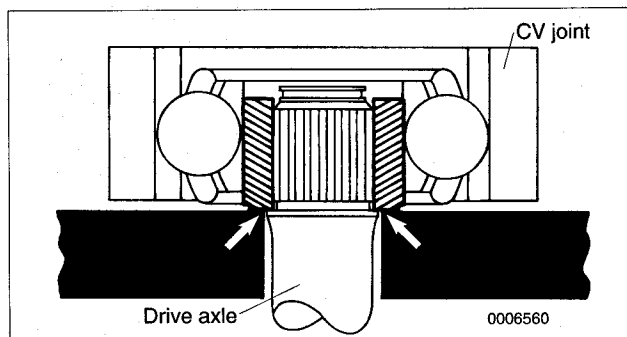

Fig. 15. Support CV joint at inner hub during pressing operation (arrows).
4. While supporting inner hub, press axle shaft out of joint. See Fig. 15.